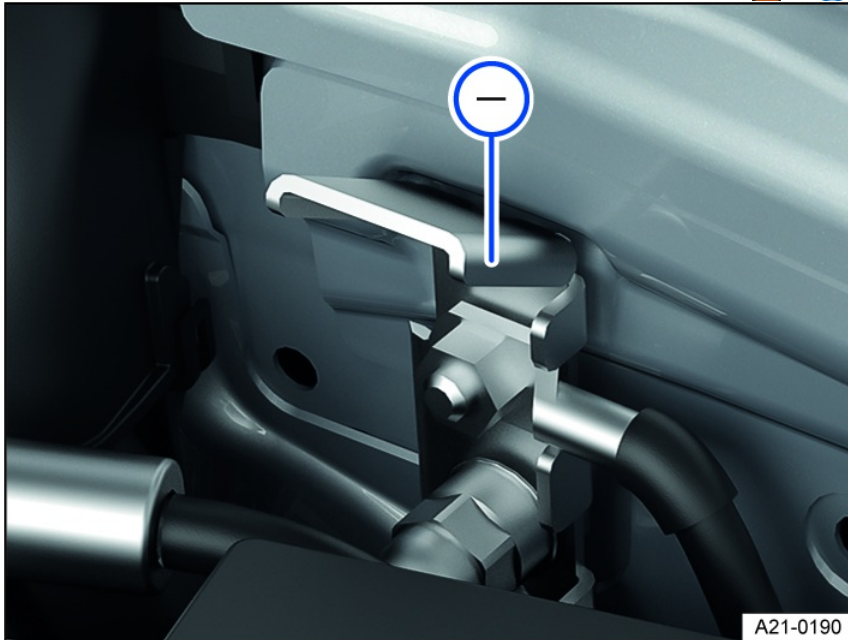

Fig. 142 In the engine compartment: jump-start point (negative terminal).
- The jump-start point (negative terminal) is for connecting the *black* jumper cable *fig. 142*.